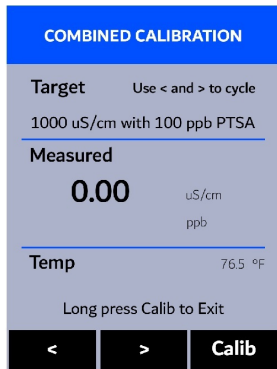

Figure 9.
3. Press **C-Cal** (**>**) to launch the **COMBINED CALIBRATION** screen (Figure 9).